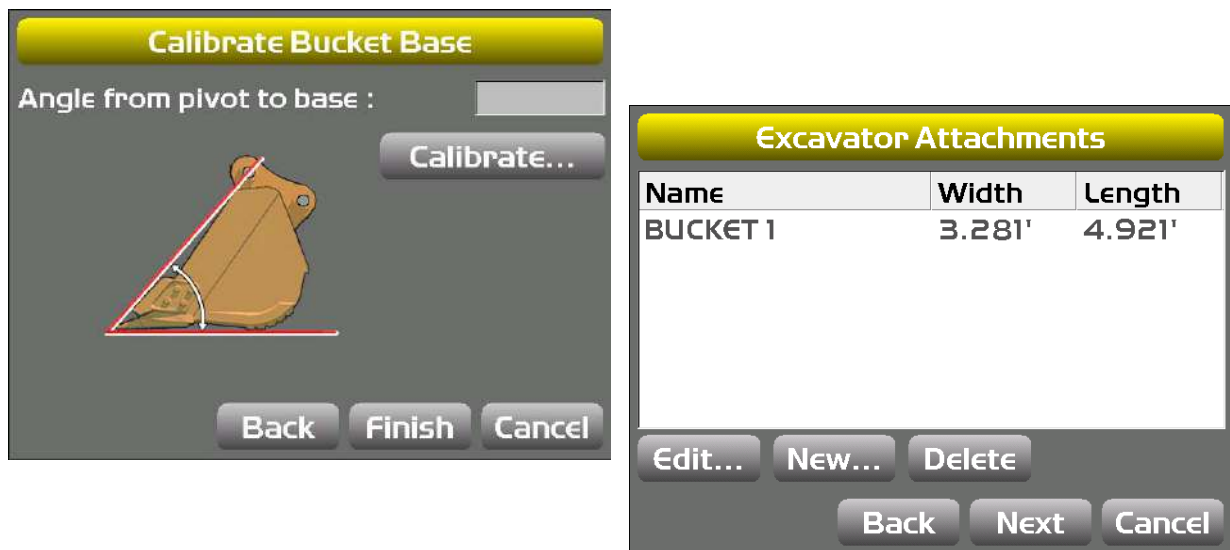

Figure 74: Calibrate Attachment Base
- Move the attachment so that the bottom of the attachment lays flat on the ground, and tap **Calibrate**; tap **Finish** to go to the **Excavator Attachments** screen (Figure 74).